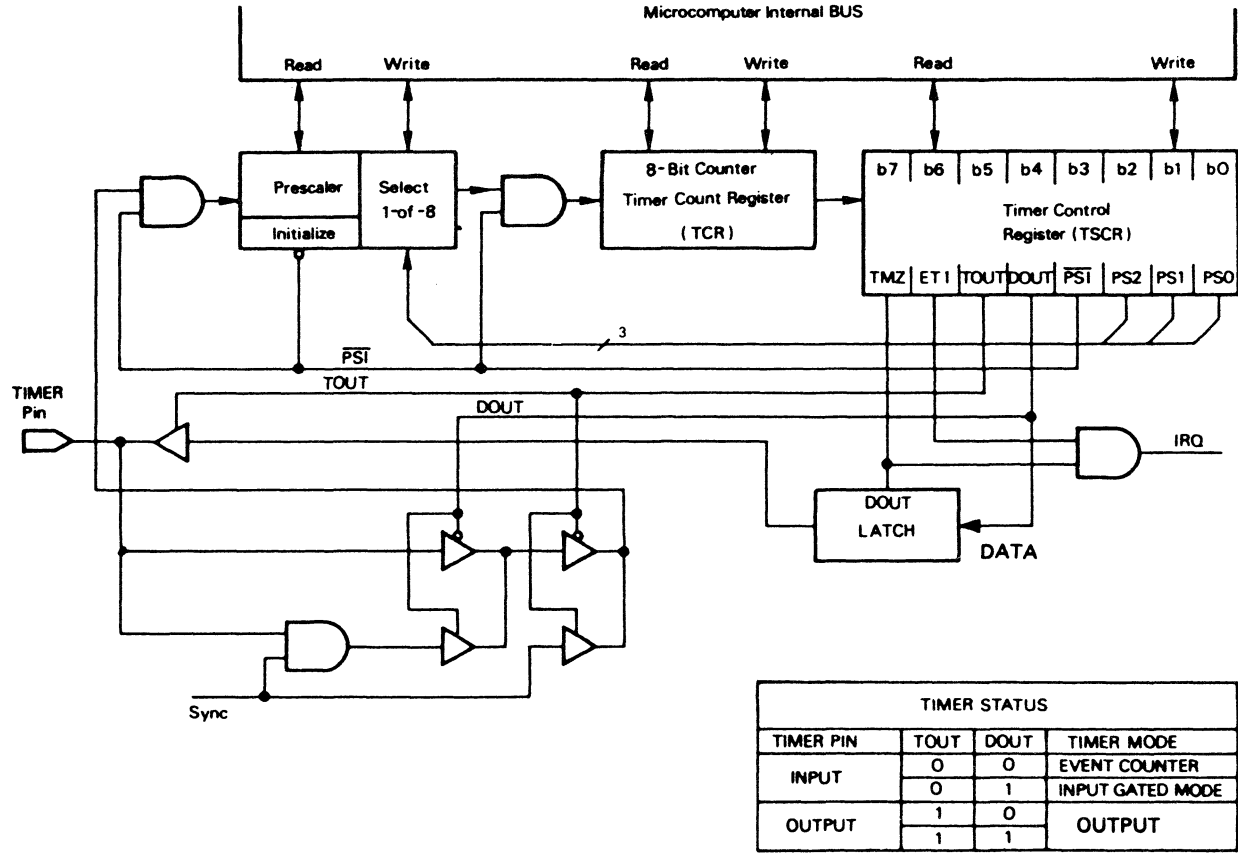

Figure 3-1. Timer Block Diagram
A block diagram of the MC68HC04P3 timer circuitry is shown in Figure 3-1. The timer logic is comprised of an 8-bit counter (timer count register, TCR) with a 7-bit prescaler and a timer status control register (TSCR).
The TIMER pin may be programmed as either an input or an output depending on the status of TOUT (TSCR bit 5). Two distinct input modes exist, namely Input Gated and Input Event Counter. Refer to figure 3-1.
- b4, DOUT In output mode, data is sent to the timer output pin when TMZ is set high. In input mode, event counter mode is selected if DOUT is low, gated mode if high. See Figure 3-1.